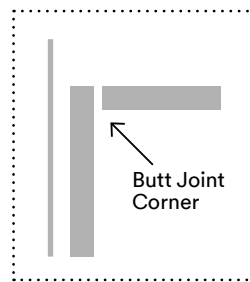

Figure 2
- Where joints are required, such as at corners and splices, a miter joint or butt joint is recommended. (*figure 2 and 3*)